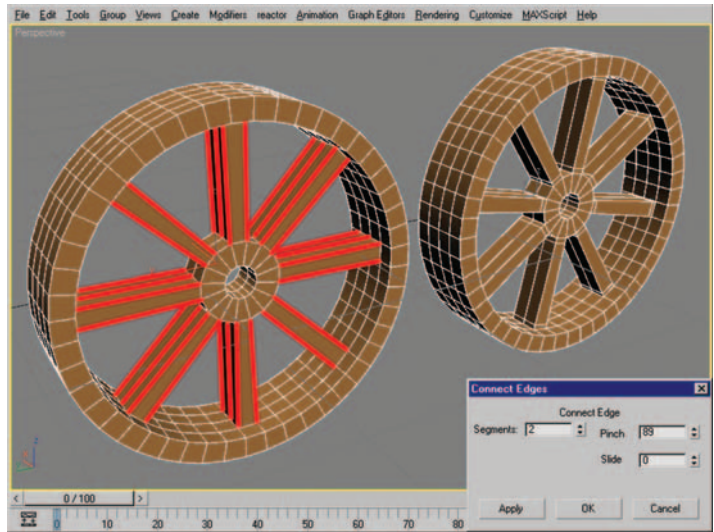

Figure 8.101 Edge selection and resulting mesh after using the Connect settings to add new edges.
11. At the Edge subobject level, select the edges seen in Figure 8.101 (left) and use the Connect settings with two segments and a Pinch value of 89. Figure 8.101 (right) shows the resulting mesh.